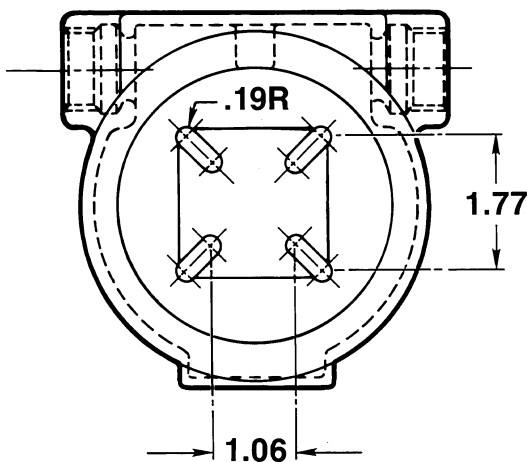

Figure 1. Internal Mounting Pad Dimensions
1. Prepare a template or mark the position of the device mounting holes on the mounting pads in the bottom of the enclosure. See Figure 1.